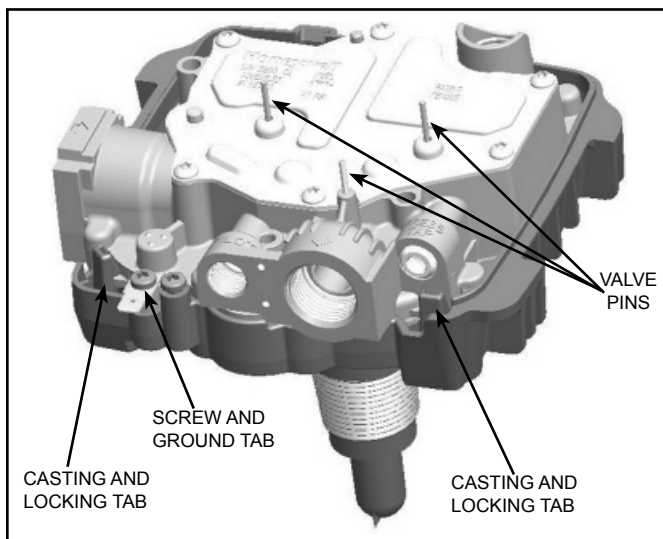

Figure 24
5. Remove the screw and the ground tab with a Torx screwdriver (see Figure 24).